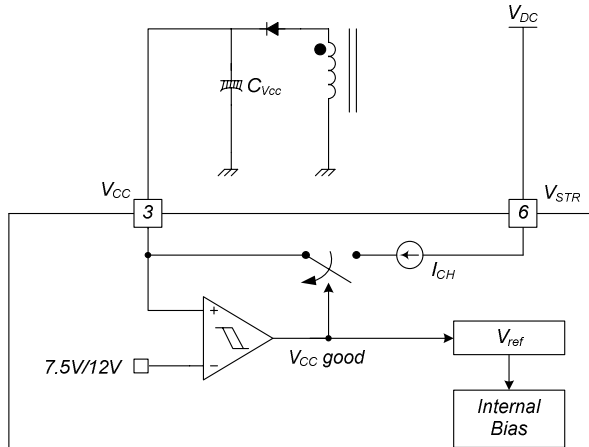

Figure 17. Startup Block
**1. Startup:** At startup, an internal high-voltage current source supplies the internal bias and charges the external capacitor ( $C_{VCC}$ ) connected to the  $V_{CC}$  pin, as illustrated in Figure 17. When  $V_{CC}$  reaches 12V, the FSGM0565RB begins switching and the internal high-voltage current source is disabled. The FSGM0565RB continues normal switching operation and the power is supplied from the auxiliary transformer winding unless  $V_{CC}$  goes below the stop voltage of 7.5V.